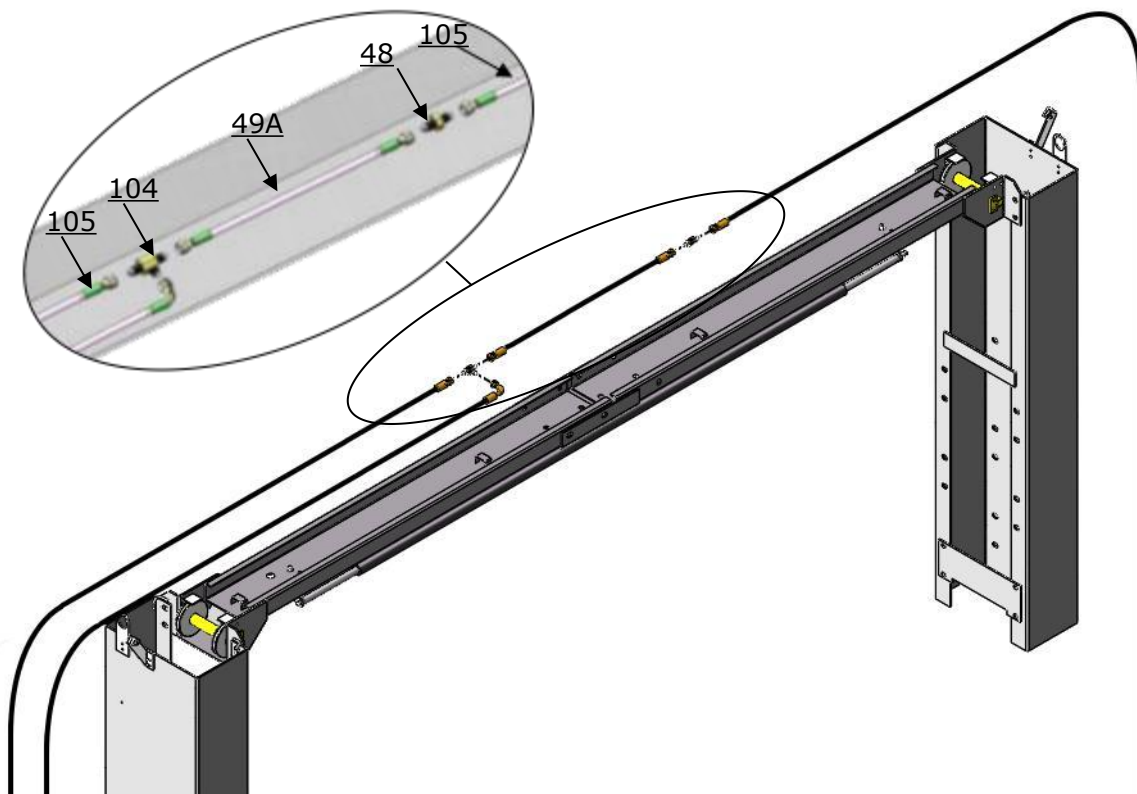

Fig. 39
3. Oil hose installation of high setting.(Fig.39)